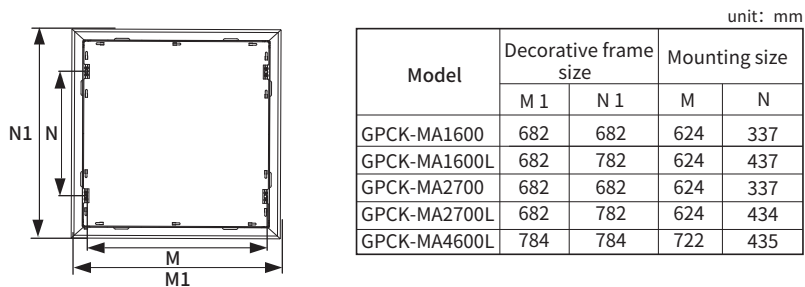
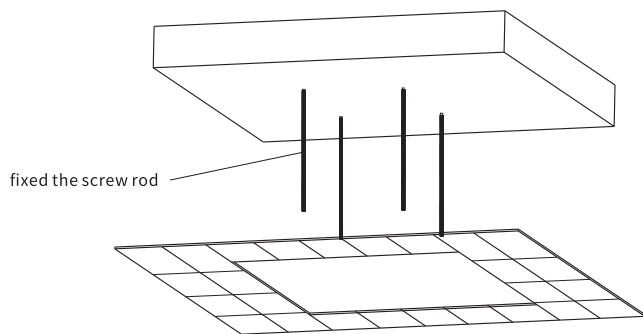

figure 3
figure 4
2. Ensure the security distance M, N according to the figure 3 and the model of table. install the brackets to the roof via the screws, figure 4.